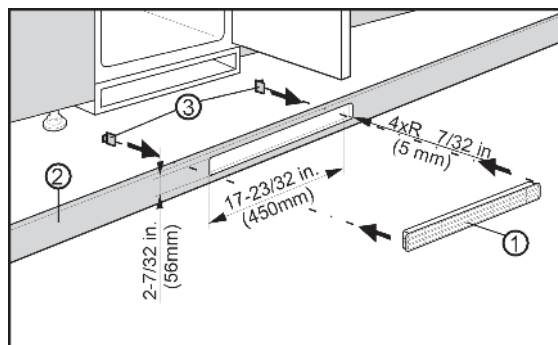

Fig. 8
Ventilation from underneath through the floor of the kitchen cabinet can be set up with the supplied ventilation grid *Fig. 8 (3)* or an air vent with at least a 31 in² (200 cm²) cross section area. If you use the supplied ventilation grid *Fig. 8 (1)* please proceed as follows:
- ▶ Insert the ventilation grid *Fig. 8 (1)* into the cut out in the cabinet floor *Fig. 8 (2)*.
- ▶ Slide the snap connectors *Fig. 8 (3)* into the grid from behind until the hooks touch the cabinet floor.